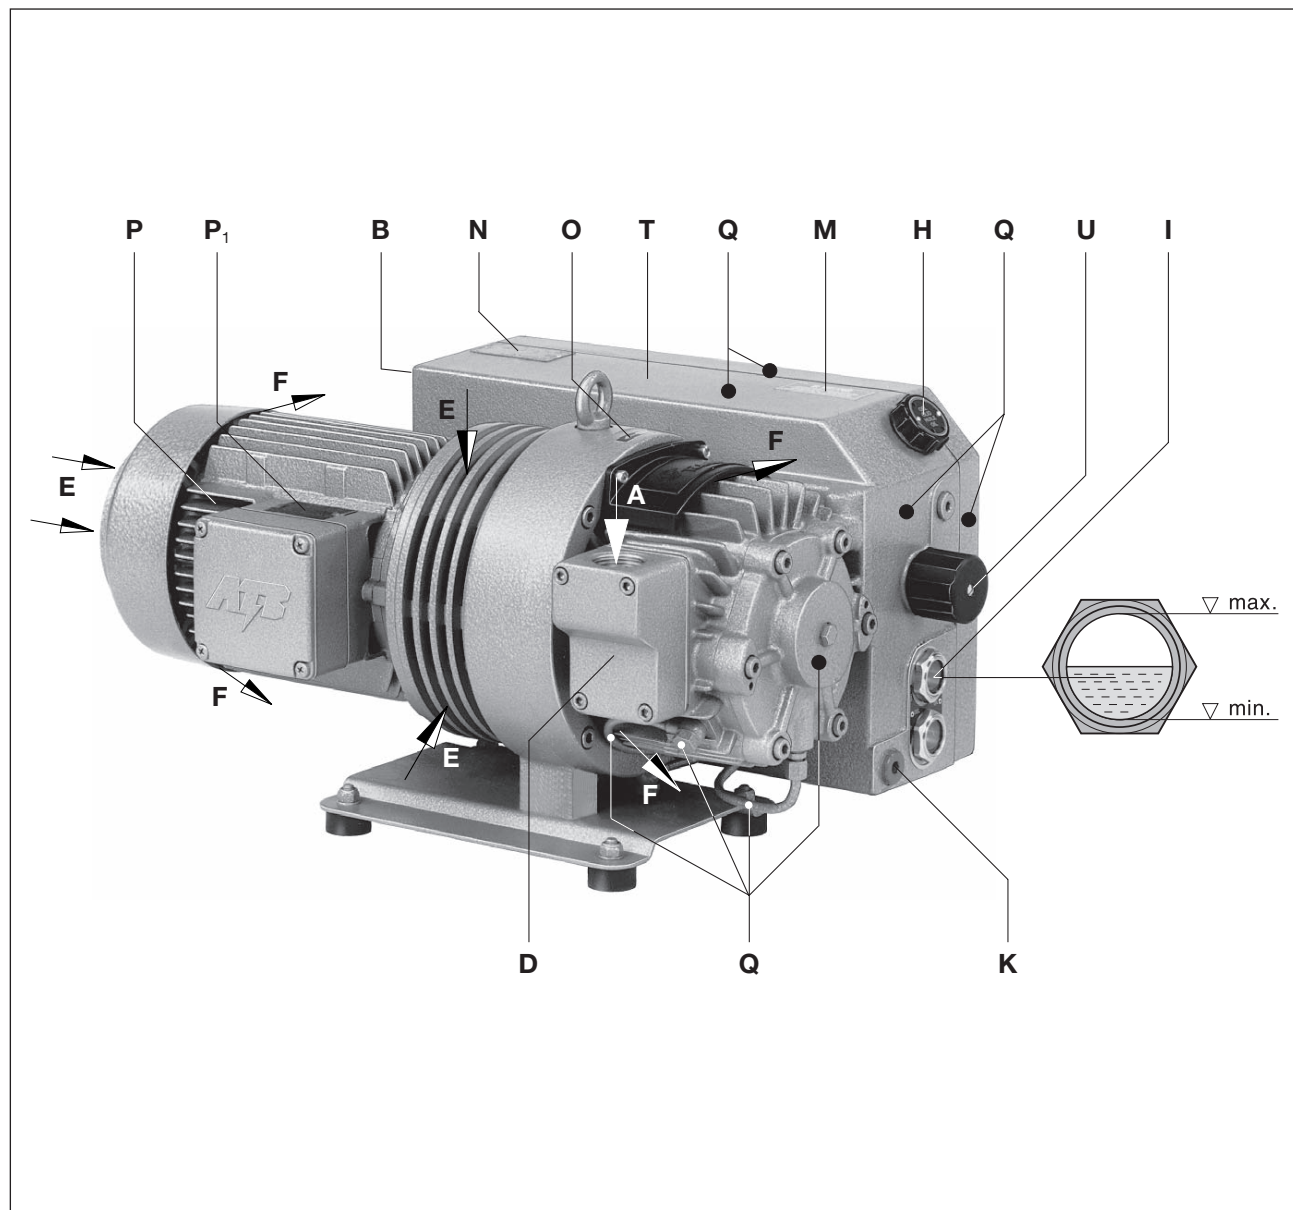

Fig. 2 Vacuum pump V-VCA / V-VCE
A gas ballast valve fitted as standard (Fig. 2/U) prevents condensation of water vapour in the inside of the pump when low amounts of steam are sucked in when the pump is at operating temperature. A reinforced gas ballast can be provided for higher amounts of water vapour.
The filter housing (Fig. 2/D), oil filling point (Fig. 2/H), oil sight glass (Fig. 2/I), oil outlet (Fig. 2/K), gas ballast (Fig. 2/U) and oil remover housing (Fig. 2/T) must be easily accessible. The cooling air inlets (Fig. 2/E) and the cooling air outlets (Fig. 2/F) must be at least 20 cm away from adjacent walls. Discharged cooling air must not be sucked in again. For maintenance work there must be a space of at least 40 cm around the machine.
The air vent (Fig. 2/B) must not be closed or restricted
- a) The vacuum connection (Fig. 2/A) is on the filter housing (Fig. 2/D).
- b) The discharged air can be freely blown out through the exhaust air hole (Fig. 2/B) or conducted away using a hose or pipe.
- a) Fill the lubricating oil (for suitable types see the "Maintenance" section) via the oil filling point (Fig. 2/H) up to the upper edge of the sight glass (Fig. 2/I).
- a) The motor's electrical data is given on the data plate (Fig. 2/N) or on the motor data plate (Fig. 2/P₁). The motors comply with DIN EN 60034 and are in protection class IP 55 and insulation class F. The appropriate connection diagram is located in the motor's terminal box (not for the plug connection version). The motor data must be compared with the data of the existing mains network (current type, voltage, network frequency, permitted current value).
- ▷ The drive shaft direction of rotation is shown by the rotation direction arrow (Fig. 2/O) on the motor flange.
- b) After correcting the direction of rotation if necessary, start the motor again and stop it again after 2 minutes in order to top missing oil up to the upper edge of the sight glass (Fig. 2/I). This topping up at the filling point (Fig. 2/H) must be repeated until all the oil pipes have been filled completely. The filling point must not be open when the pump is running.
- ▷ Version (09):
The operating range can be set by turning the adjusting bolt (Fig. 2/X, 4/X).